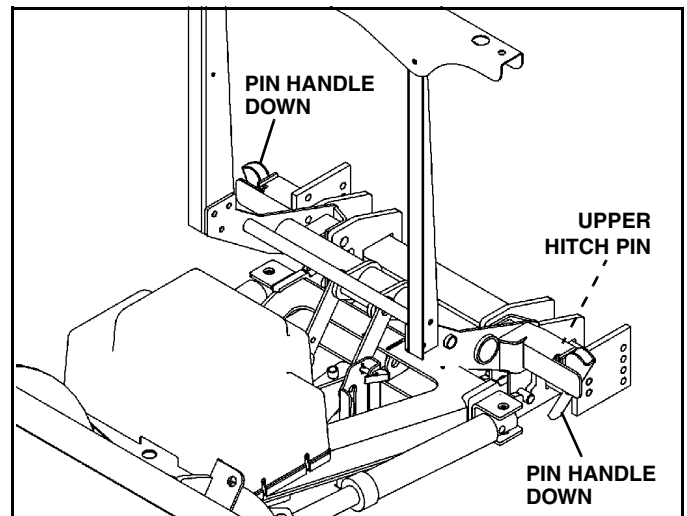

Figure 1-23
4. Put plow into float position by turning down pressure off. Rotate pin handles down to lock pins in place. (See Figure 1-23).